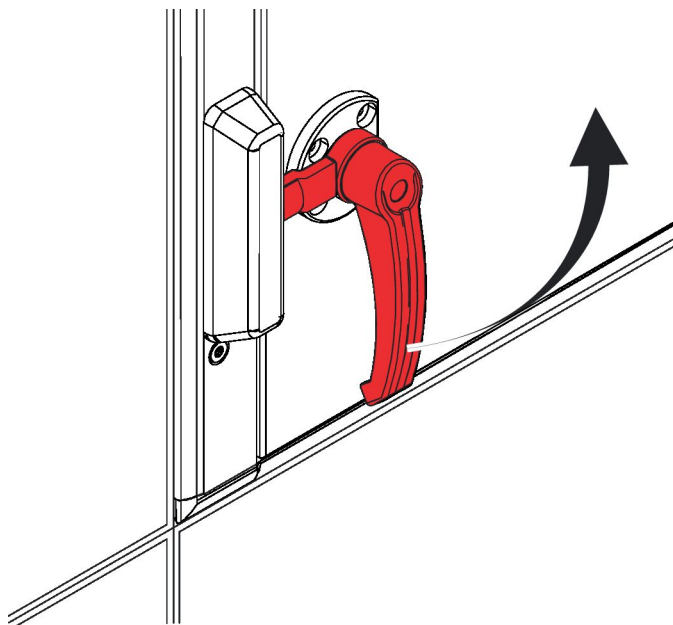

Fig. 48: Opening a door lock
- ▶ Turn the door handle anti-clockwise by 90° (Fig. 48).